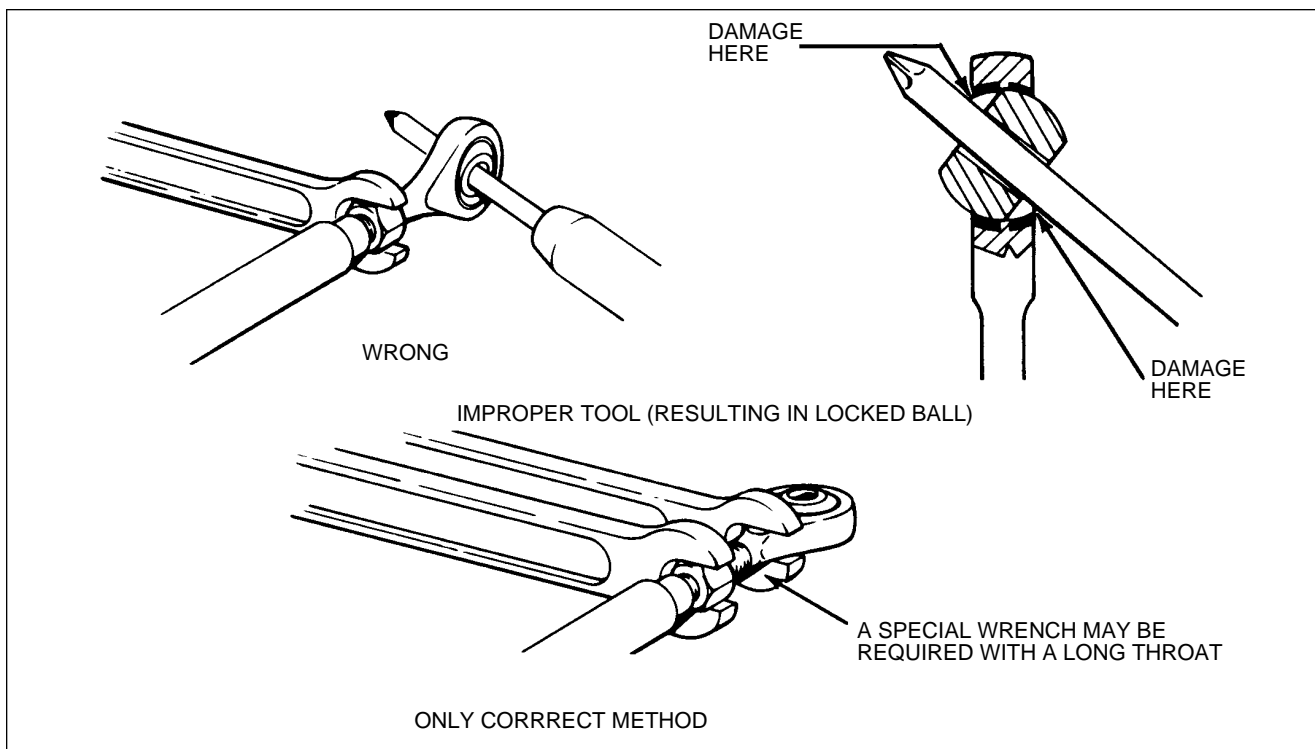

Figure 5-1. Rod End Installation Method
- j. Refer to Figure 5-1 for proper rod end jam nuts installation.